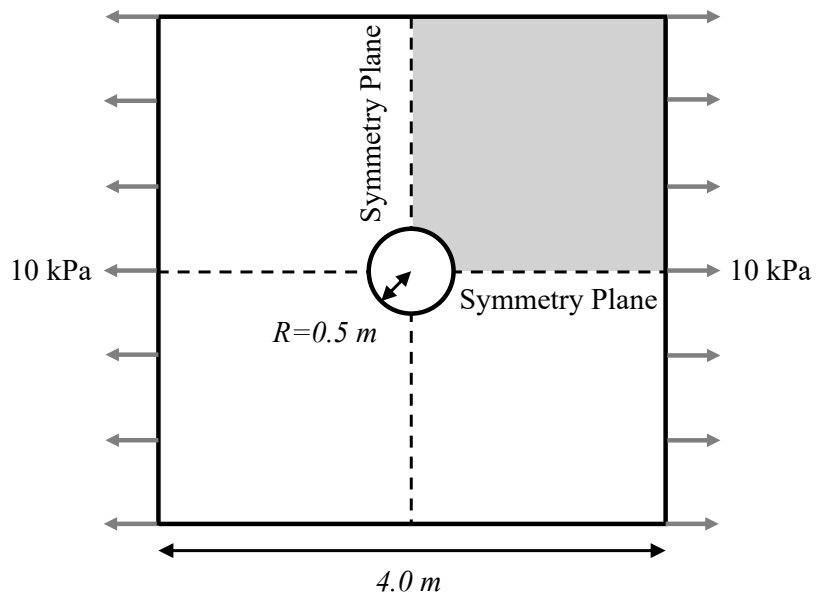

Fig. 2 Geometrical setting of a square plate with a hole.
- The stress analysis for structures with holes can be common in engineering practice. Consider the following plane elastic body with side length 4m and a hole in the center (see Fig. 2). The hole has radius 0.5m. It is loaded with a uniform traction of 10 kPa over its left and right faces. There is no body force. Again, only a quarter of the domain needs to be analyzed, which is shown as the dark area in the following figure. The Young's modulus is  $10^9$  Pa and Poisson's ratio is 0.3. Use your own code to perform a plane stress and plane strain analysis of this problem. Provide displacement and stress visualizations. Discuss results, including insights into stress concentrations **(15 points)**.